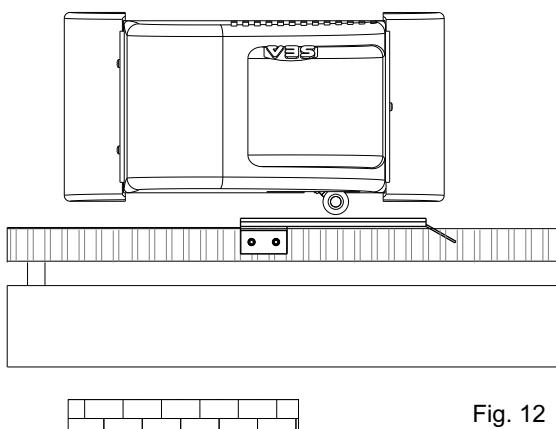
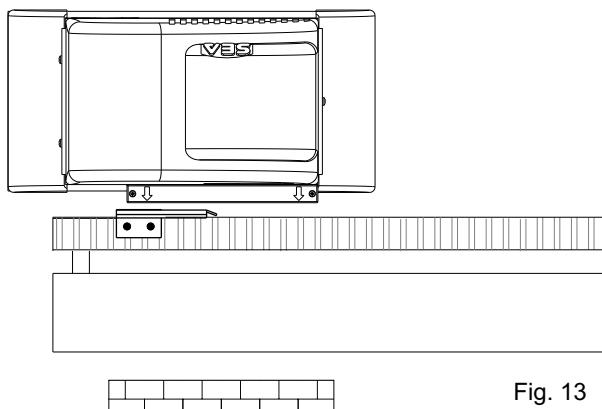
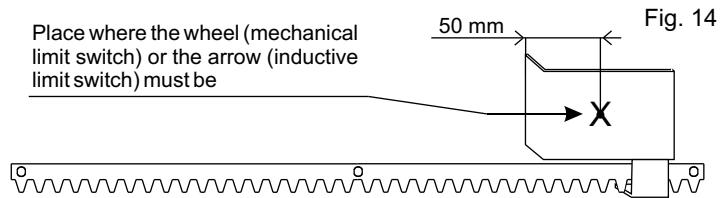
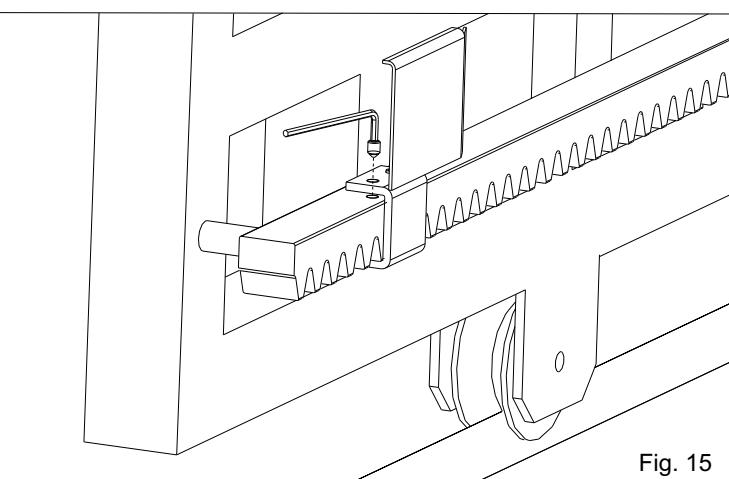

Fig. 12
Fig. 13
Fig. 14
Fig. 15
- Place the limit switch plate on the gear rack to have the limit switch (lever in case of mechanical limit switch (Fig. 12); pointers placed in the higher part in case of inductive limit switch (Fig. 13)) in correspondence with the X point which is 50 mm from the folded side of the plate (Fig. 14) and fix it with the supplied screws (Fig. 15).
- Place the limit switch plate on the gear rack to have the limit switch in correspondence with the X point which is 50 mm from the folded side of the plate (Fig. 14) and fix it with the supplied screws (Fig. 15).